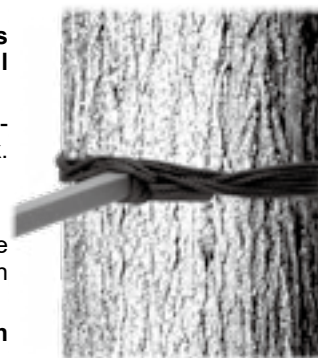

FIGURE 5
STEP 6: With three (3) or more adults, carefully raise the assembled ladder stand up until the ladder stand rests into the center of the v-bar and the seat platform (D) and foot platform (I) are level. Note: DO NOT stand in the direct path or underneath any treestand at any time. If need be, drive a stake into the ground at the first ladder rung to prevent the ladder stand from sliding toward the tree while raising and lowering of the ladder stand.
**Note: With two (2) adults raising the treestand into place, have one (1) adult pulling on the two (2) 16' stabilizing ropes (N) from behind the tree. By doing so, this helps guide the treestand safely into place.**
STEP 7: To level the seat platform (D) and foot platform (I), move the ladder stand in or out until the platforms are level. Once level, stand on the bottom ladder rung until it is firmly seated on the ground.
STEP 8: With the treestand level, and the v-bar flush against the tree trunk, adjust the adjustable support bar assemblies (P) length until the "V" end is firmly against the tree trunk. Tighten the wingbolt securely.
STEP 9: Locate the one (1) 8' stabilizing rope (O) (refer to Figure 1). Secure the adjustable support bar assembly (P) "V" end to the tree using the 8' stabilizing rope (O) as shown in Figure 5.
**Note: NEVER adjust the adjustable support bar assembly (P) once your stand is in position and your platforms are level.**
STEP 10: Locate the two (2) 16' stabilizing ropes (N) hanging down from the v-bar. Pull down on the ropes from behind the tree and criss-cross the ropes behind the tree to form a "X" with the ropes. Keeping tension on the ropes, walk around to the front of the tree and tie each rope off to each side of the ladder section rung (to rung closet to ground level). These ropes will hold the top section to the tree until the platform section is secured to the tree with the looped ratchet strap (M). NEVER REMOVE the ropes from the tree nor attempt to climb the ladder unless the 8'/16' stabilizing ropes (N&O) and adjustable support bar assembly (P) is firmly attached to the tree.